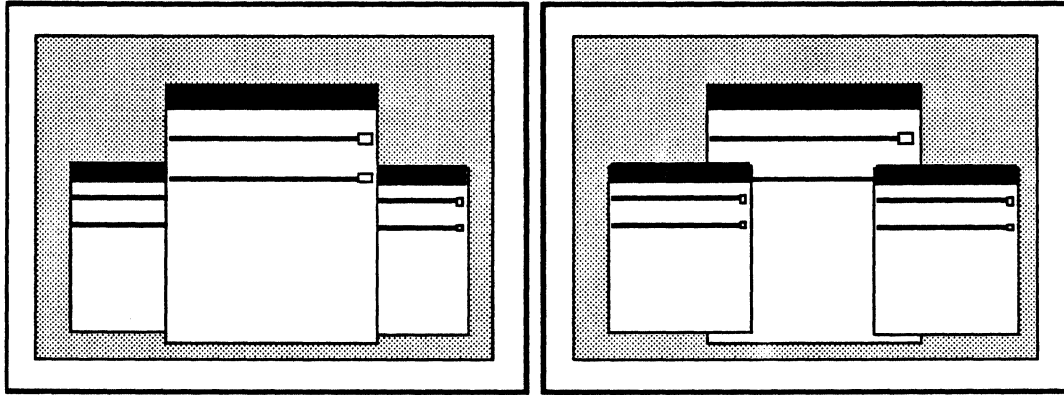

Figure 3.23
- 1) Select **Bottom** in the Window Manager Menu. Figure 3.23 shows a window before and after you issue the **Bottom** command.